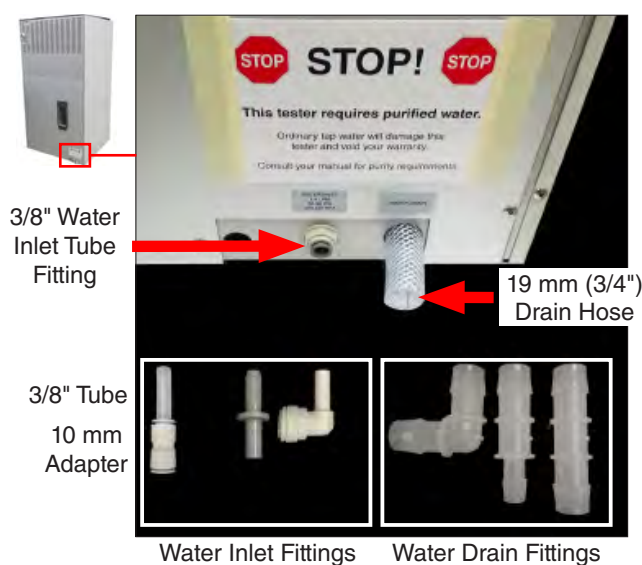
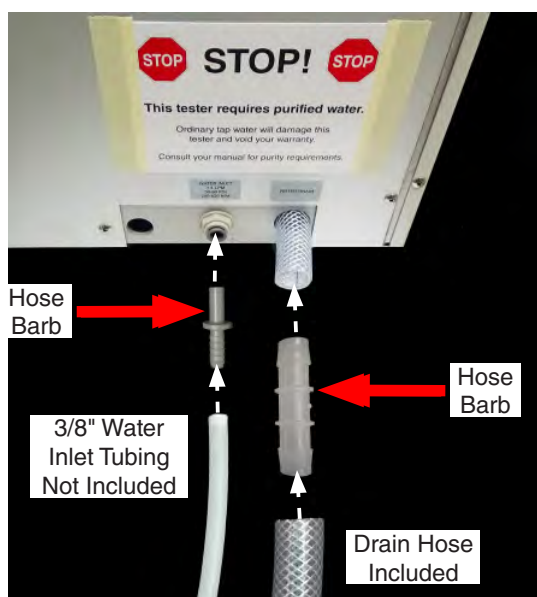
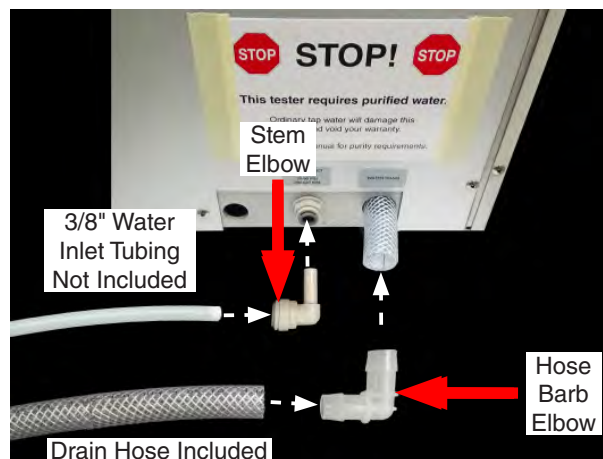

Figure 5.9b: Supplied water inlet and drain fittings.
Figure 5.9d: Configuration 1.
Figure 5.9g: Configuration 4.
- The water supply and drain connections are made at the lower rear of the tester (Figure 5.9b).
- The Q-SUN tester is supplied with kit X-7654-K (Figure 5.9b) which includes water inlet and drain fittings to meet various connection configurations (Figure 5.9d through Figure 5.9g).